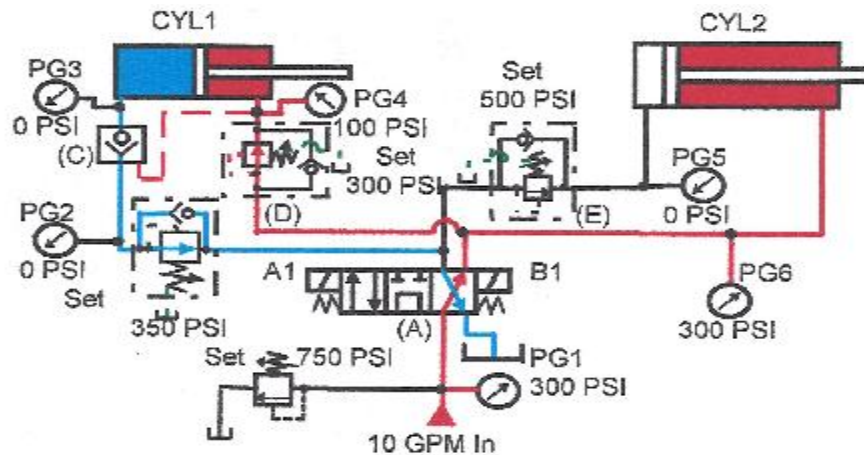

Figure 20-11. Two-cylinder sequence circuit.
When pressure reaches 300 psi in Figure 20-11, CYL1 starts to retract. Because of sequence valve (D), pressure at the rod end of CYL2 stays at 300 psi. When oil passes through sequence valve (D), it first sends a pilot signal to open pilot-operated check valve (C). After valve (C) opens, CYL1 can retract. Pressure at the rod end of CYL1 is whatever it takes to stroke the cylinder home.